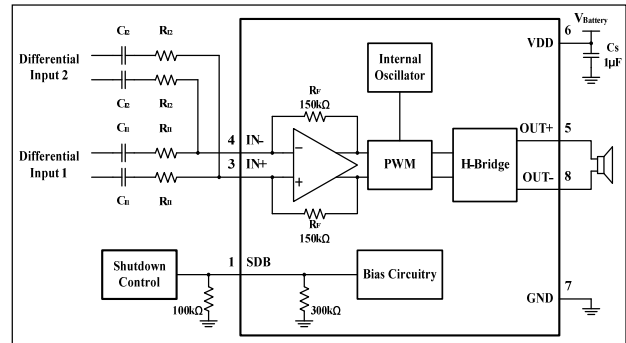

Figure 14 Application Schematic with IS31AP2005 Summing Two Differential Inputs
Two extra resistors are needed for summing differential signals. The gain for each input source can be set independently (see equations (4) and (5), and Figure 14).